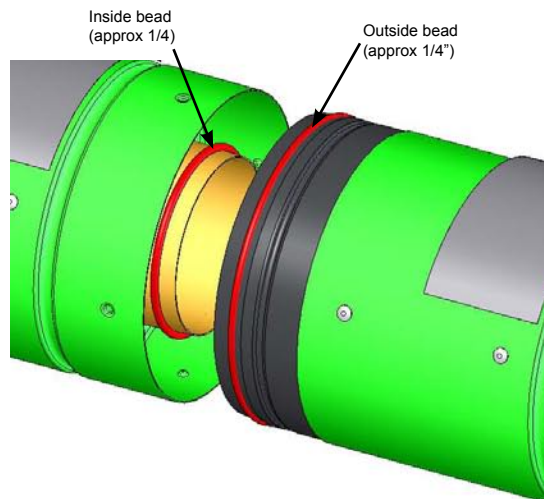

FIGURE 9
- The use of three (3) sheet metal screws (self-tapping screws are recommended) is required at every connection. Do not use longer than 3/4 in. (20mm) screws to prevent damage to the inner pipe. The indents in the pipe will assist in the placement of the screws.
- **High temperature (500F/260C) silicone sealant is required on all 3 in. diameter inside joints.** Either high temperature or clear silicone sealant is recommended for the outer 5 in. outside joint. A 1/4 in. (6mm) bead, 1/2 in. (12mm) from the male (crimped) end of both sections of pipe is recommended. See Figure 9.
7. Attach the Vent Cap, noting orientation of embossment, to the extended pipe. Use high temperature (500 F/260 C) silicone sealant between all pipe joints. See Figure 9.